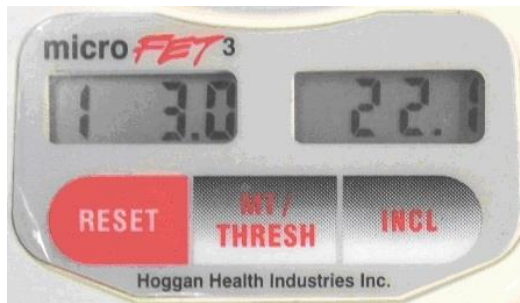

Figure 7. Muscle Test Saved Results Example
- The device will display the test number and durations in seconds in the left display, and peak force in the right display, (see figure 7).